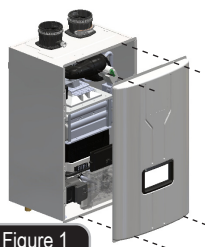

Figure 1
2. Use a screwdriver to remove 4 screws from the front cover. See Figure 1.